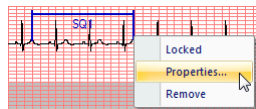

Figure 270 – Marker context menu
3. To edit the measurement properties click on the **Properties...** menu item in the displayed context menu (see Figure 270).